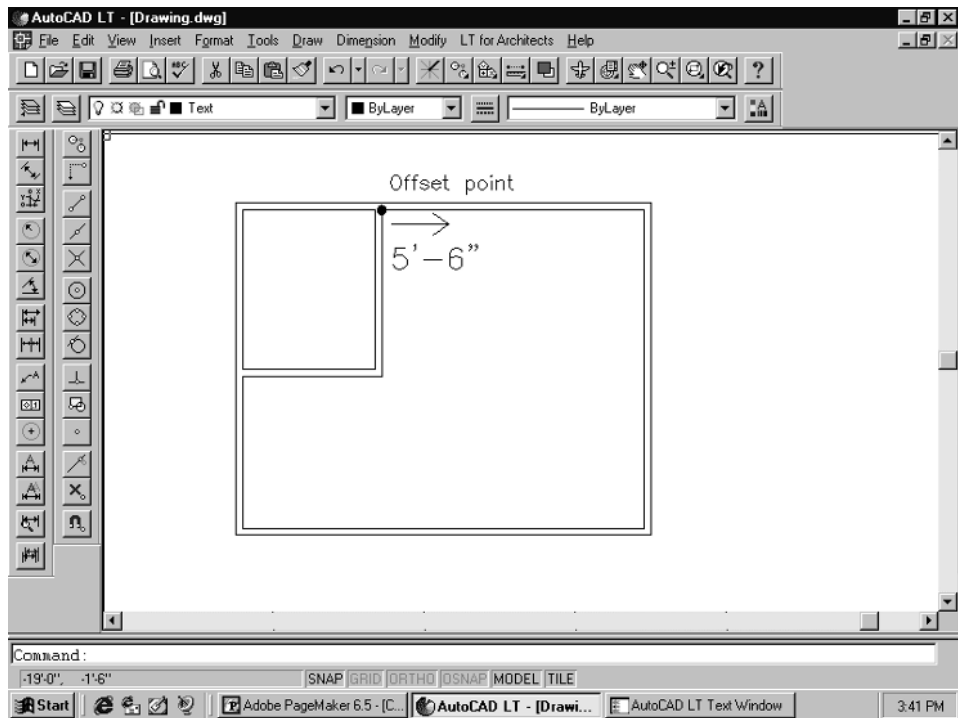

Figure 2-12
3. To add the next interior wall, type **DLINE** and **Enter**. At the *Specify next point or [Arc/Break/Caps/CLOSE/Dragline/Snap/Undo/Width]* prompt, type **O** (for Offset) and **Enter**. When you see the *Specify base point to offset from* prompt, pick the wall corner indicated in Figure 2-12.